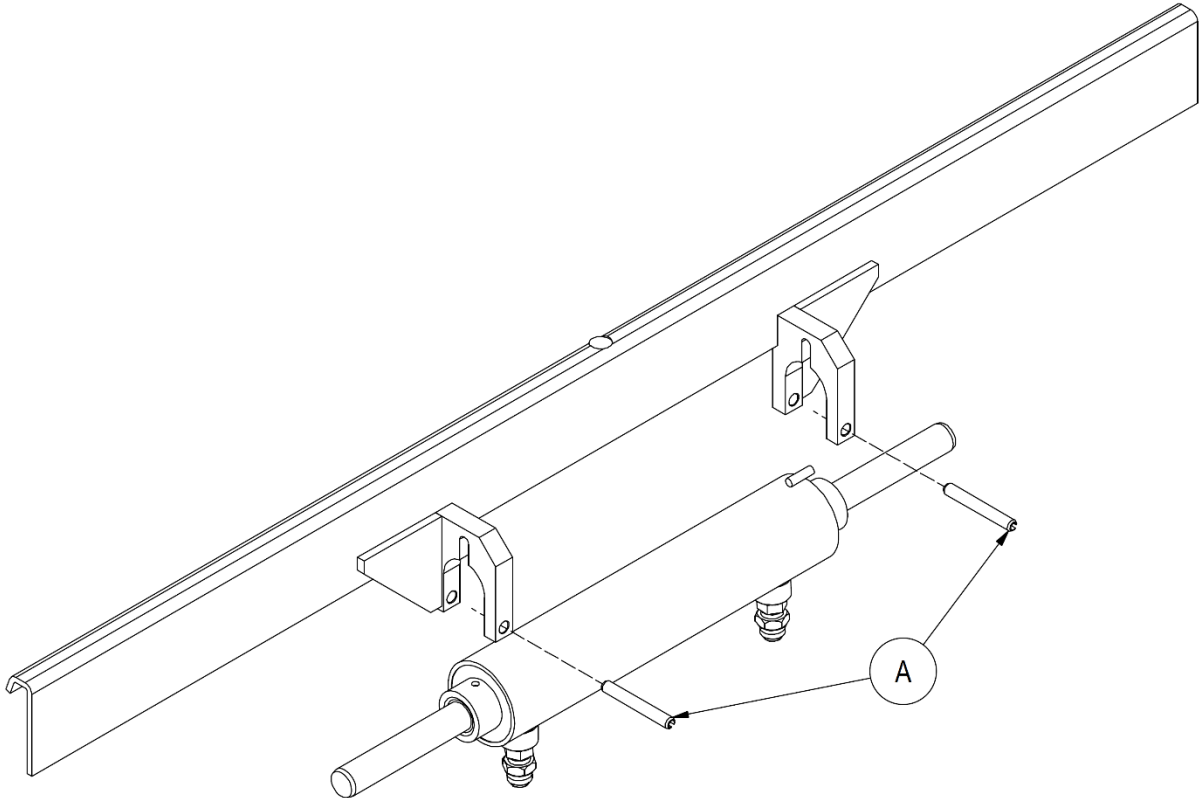

Figure 21
2. Remove spring pins **A** and remove the cylinder from its housing (see *Figure 21*).